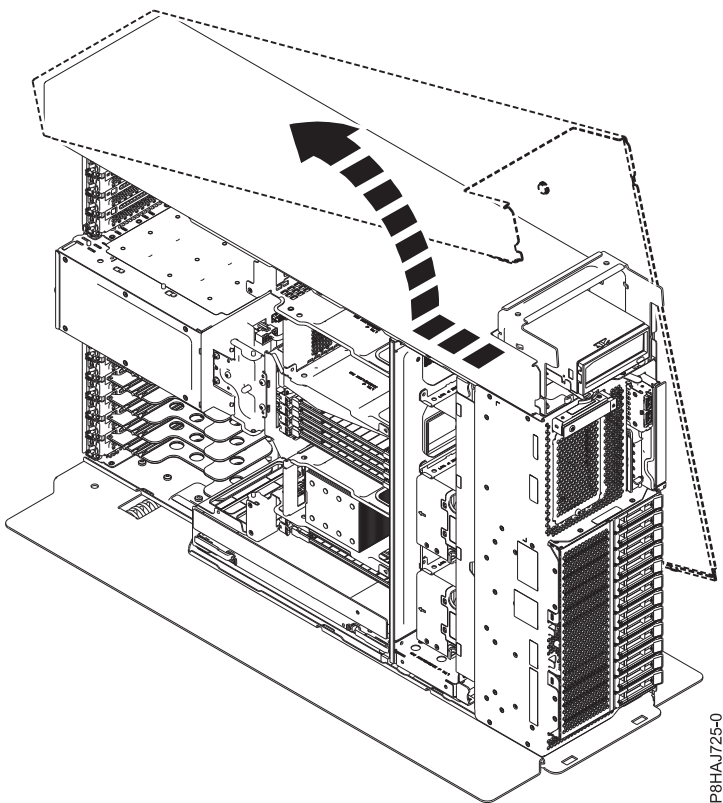

Figure 31. Removing the 8286-41A side cover
5. Slide the side cover off of the system in the direction that is shown in Figure 31 on page 47.